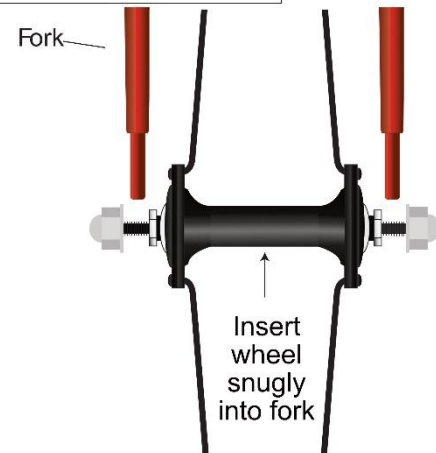

Figure 4 – Slide Wheel into Fork
- (2) **Slide wheel into front fork** (See Figure 4). With the steering fork facing forward (angling